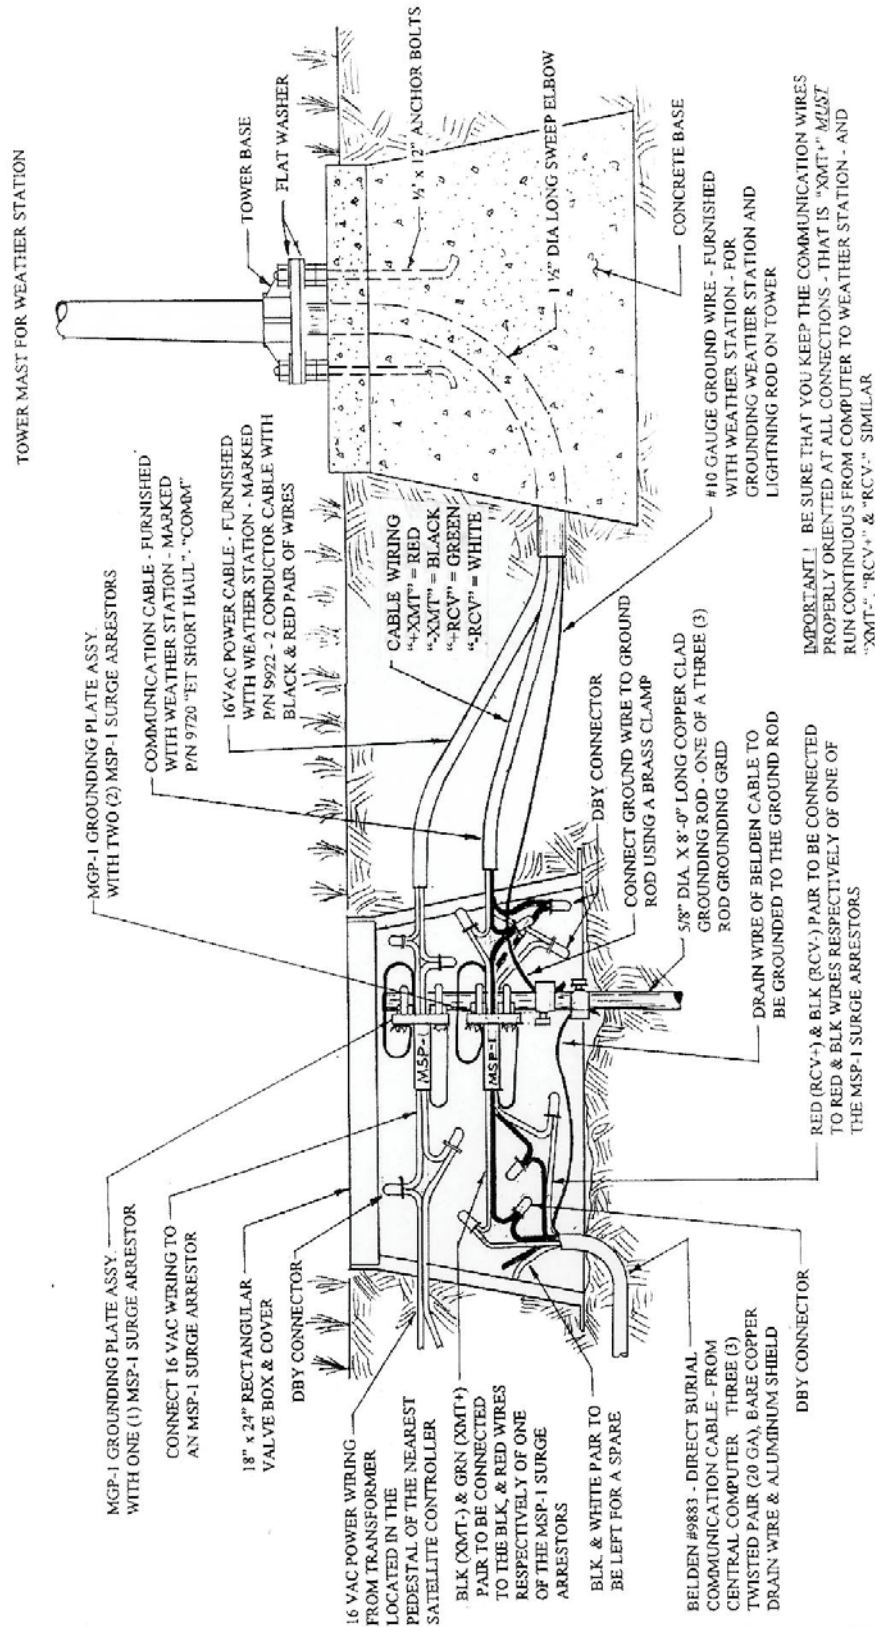

FIGURE 6 - EXTERNAL WIRING DETAIL AT THE PRO-SH WEATHER STATION
5.0 EXTERNAL WIRING TO WEATHER STATION: (Refer to FIGS. 6 & 7)
Take the 12 foot 10 AWG Ground Cable, furnished as part of the weather station and cut a 9" piece from on end of it. (This 9" piece will be used later). Attach one end of the ground wire to the ground rod, of the 3-rod grounding grid, that is located in the valve box using a brass clamp. **Refer to FIGURE 6 or 7.**